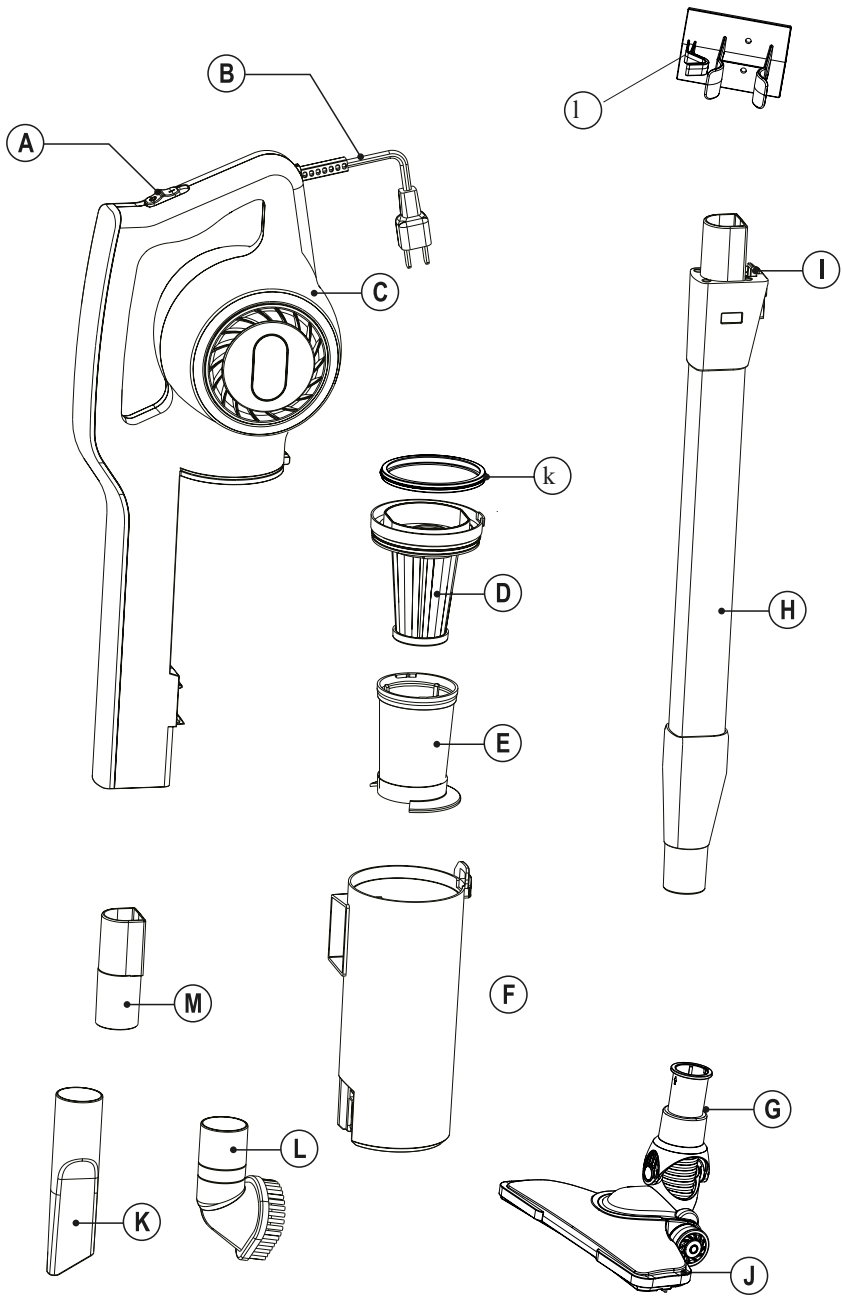

Fig.1
- ◆ Fit the extension tube and floor brush to the vacuum cleaner. (Fig.1).